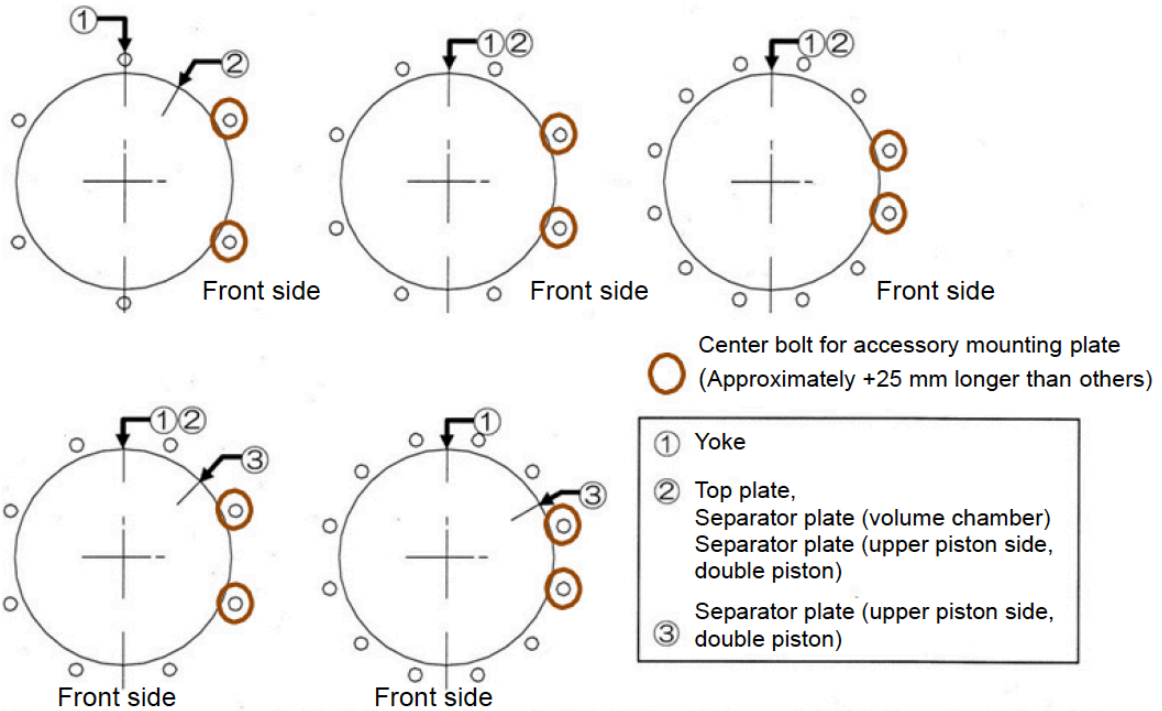

Figure 17 - Center Bolt Positioning
12. Replace the O-ring (21) on the Top Plate (17) and the O-ring (21) and Guide Ring (16) on the Piston Plate S/A (15) with new parts. Coat the O-rings and Guide Ring with silicone grease (or equivalent).
13. Replace Cylinder Tube (14), and Top Plate (17) with only axial movement. Coat the inner surface of the cylinder tube with silicone grease.
- Ensure the positions of the air connections are correct. Insert the Center Bolts into the holes of the Top Plate and Yoke. Mount the Spring Washers and Nuts and tighten them lightly by hand. Mount the Spring Washers and Nuts to the bottom side of the Yoke by hand. Ensure that the position of Center Bolts (Approximately +25 mm longer than others) for the accessory mounting plate, if equipped, complies with Figure 17.